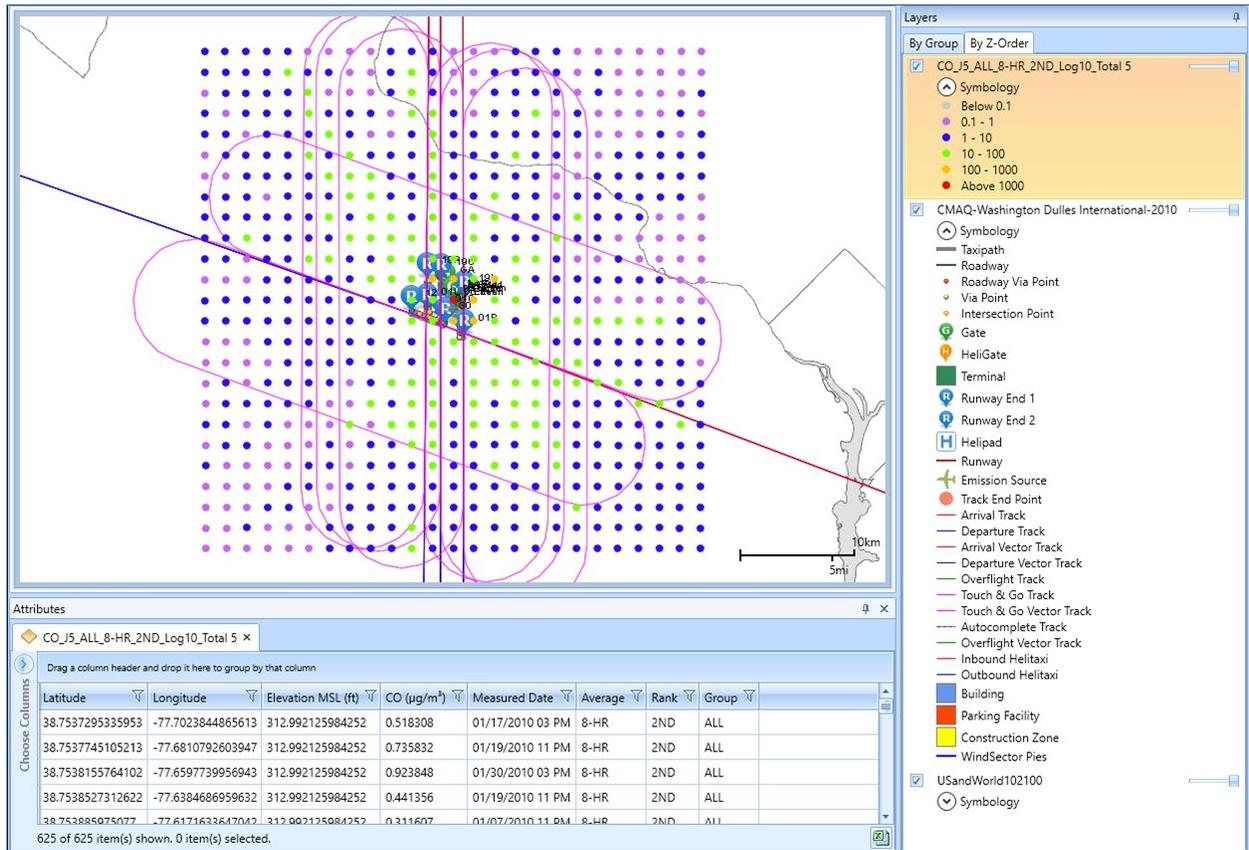

Figure 5-46 Sample Pollutant Concentration Layer with Attributes- Shown with Airport Layers
6. Click *OK* to generate and display the concentration layers on the map (Figure 5-46) and in the *Layers* manager.
The following attributes are available for all Pollutant Concentration Layers: latitude, longitude, symbology index, pollutant, measured date, average, rank, and group (Figure 5-46). See Appendix B.3 for descriptions of the attributes.